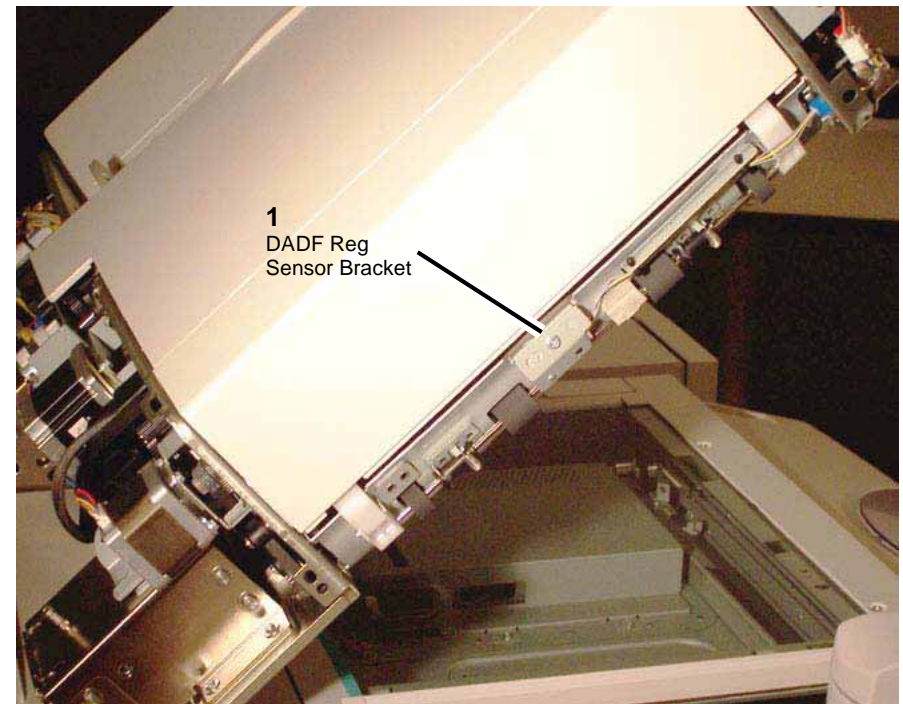

Figure 1 DADF Reg Sensor Bracket
4. From the center of the Reg Out Chute, revealed when the DADF Left Lower Cover was removed, remove the Sensor Bracket. Figure 1
- a. Remove the screw (1).